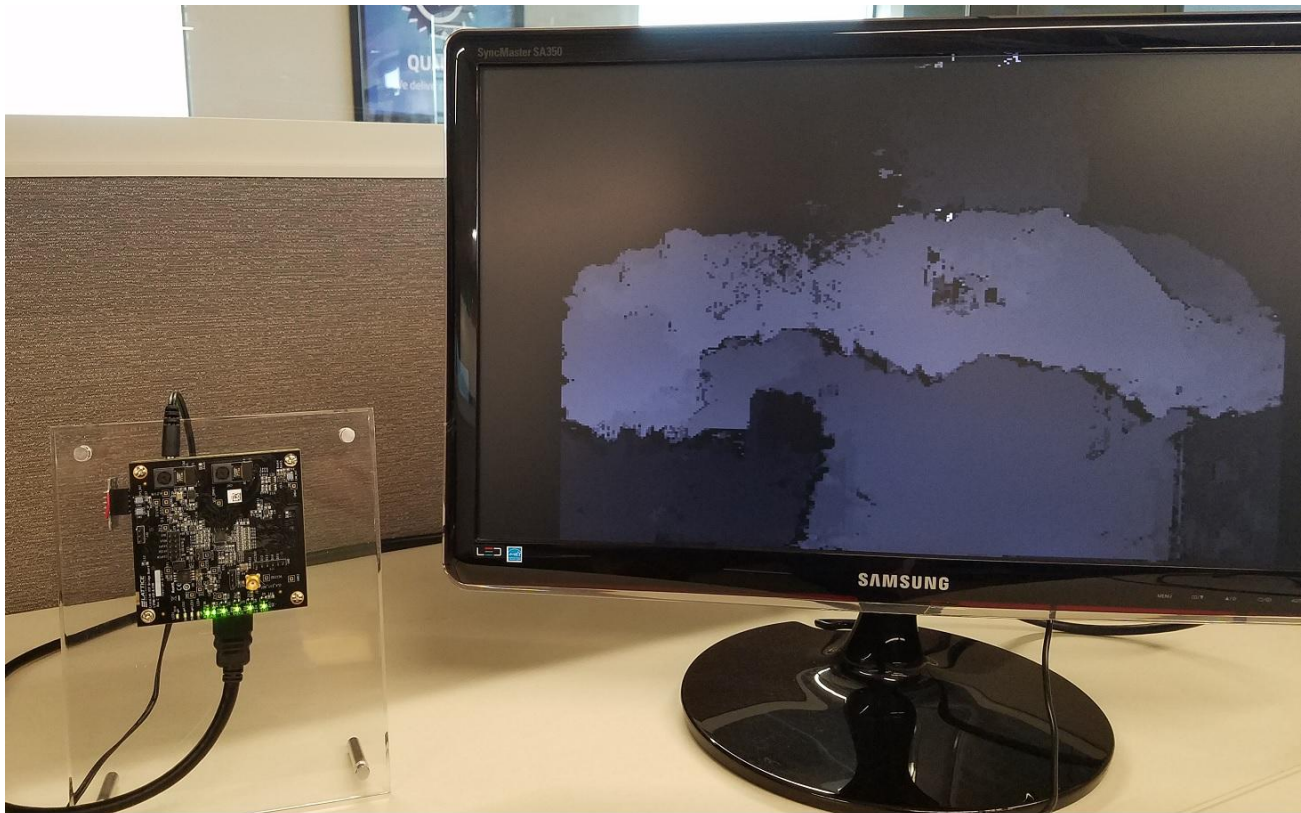

Figure 5.2. 3D Depth Mapping Demonstration
9. Connect the HDMI cable from CN1 of HDMI VIP output board to the HDMI display/monitor. The monitor displays the dual camera merged image as shown in Figure 5.2.